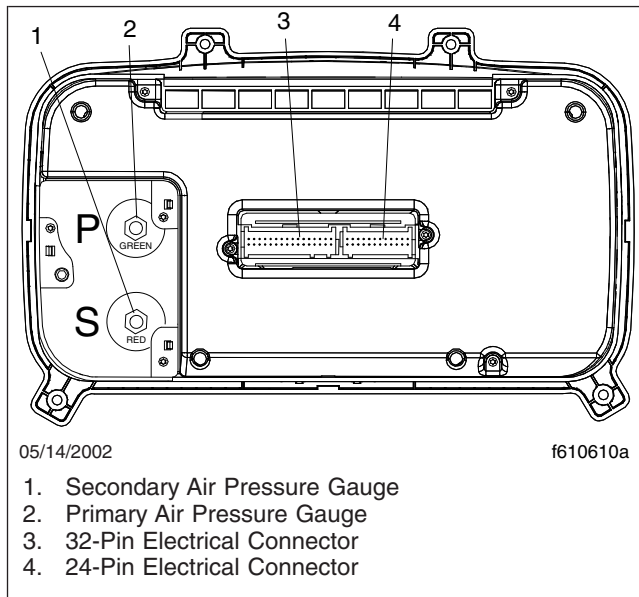

Fig. 4, ICU3, Rear View
6. Disconnect the two electrical connectors from the back of the ICU. See Fig. 4.